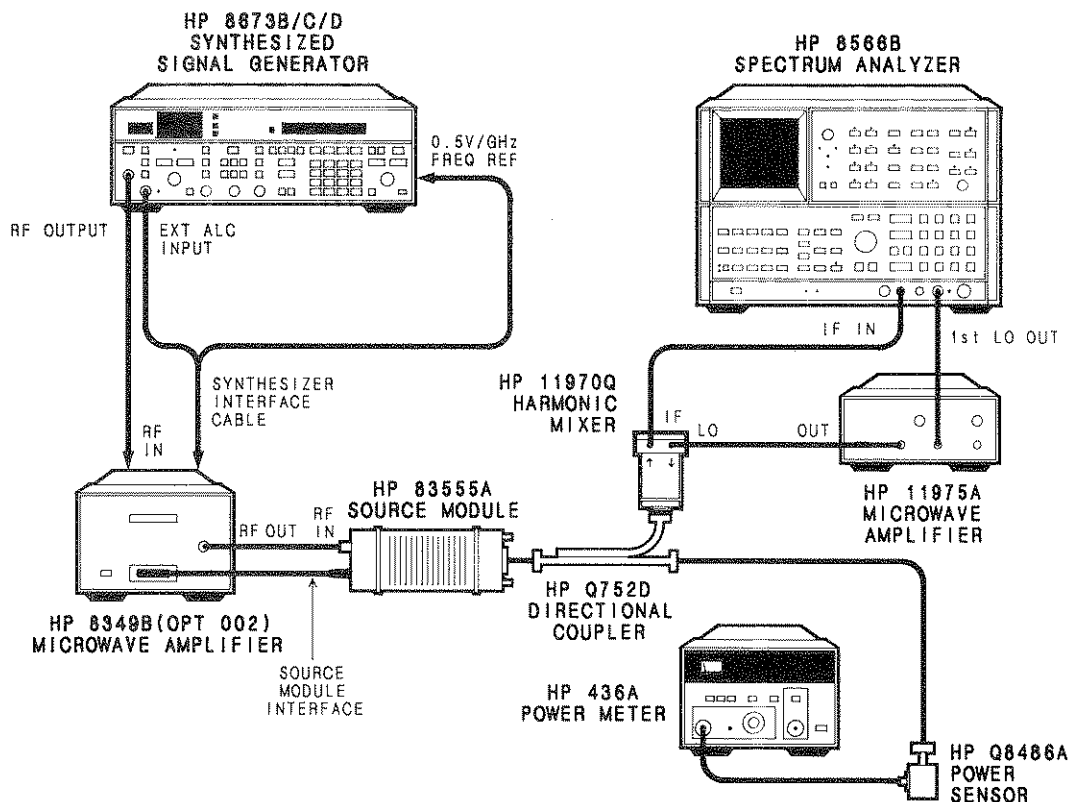

Figure 2-7. Spurious Signals Test Setup
The RF output signal from the millimeter-wave system is tuned from 33.0 to 50.0 GHz using the HP 8673B/D or from 33.0 to 36.9 GHz using the HP 8673C. The system output frequency is displayed on a spectrum analyzer to verify that any harmonic spurious signals are at or below their specified levels. The test configuration in Figure 2-7 uses an external harmonic mixer to extend the frequency range of the spectrum analyzer. When this technique is used, the response is not preselected and multiple signals are displayed that are not necessarily in the frequency band displayed on the spectrum analyzer. Each response must be examined not only for amplitude level but also to determine whether it is a true in-band spurious signal by using the spectrum analyzer's signal identification function
1. Connect the equipment as shown in Figure 2-7.
Because the test configuration in Figure 2-7 specifies that the external mixer be connected to the coupled arm of a 20 dB directional coupler, the coupled power must also be taken into account when calculating reference level offset. The new equation is as follows: